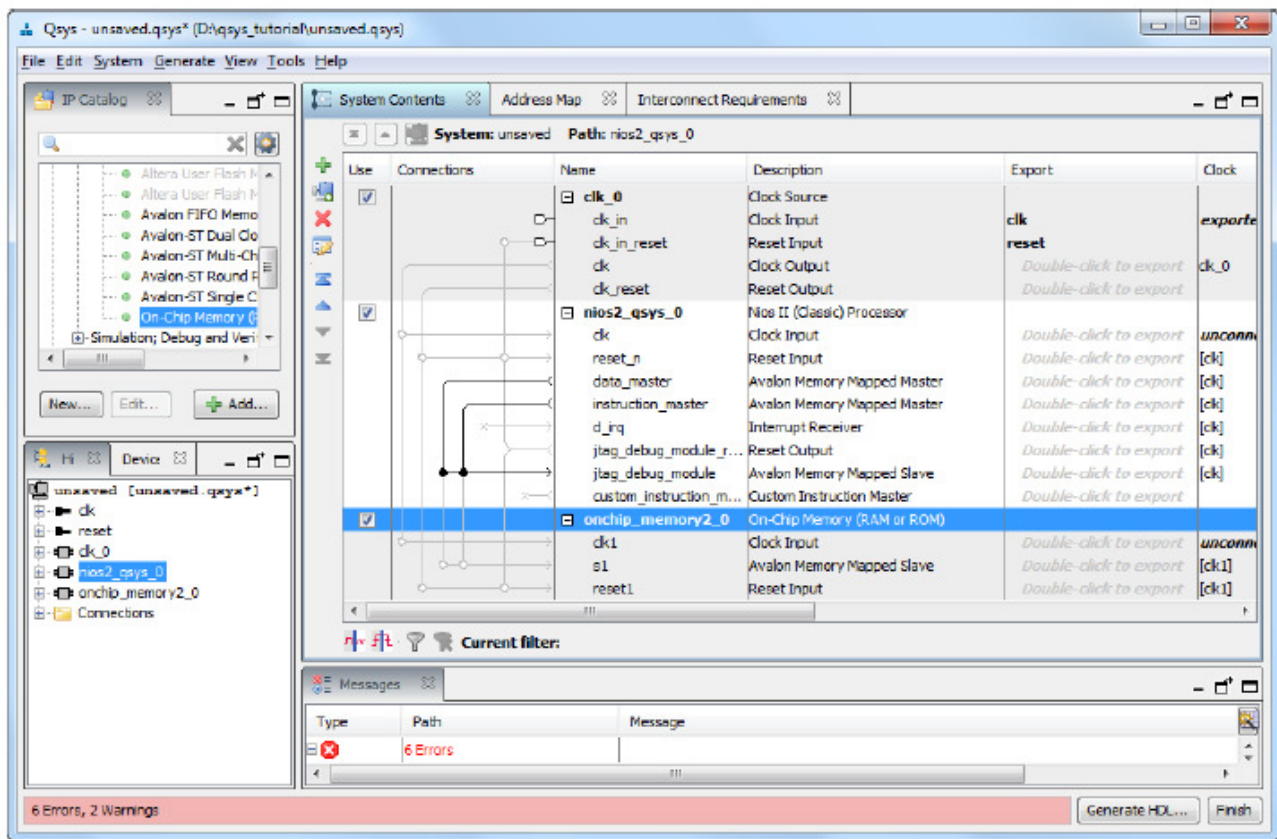

Figure 8 The on chip memory included in the design
- Click **Finish**, which returns to the System Contents tab as indicated in Figure 8
6. Observe that while the Nios II processor and the on-chip memory have been included in the design, no connections between these components have been established. To specify the desired connections, examine the **Connections** area in the window in Figure 8. The connections already made are indicated by filled circles and the other possible connections by empty circles, as indicated in Figure 9. Clicking on an empty circle makes a connection. Clicking on a filled circle removes the connection. We want the clock of the memory be the same one as the processor. Thus, connect clock inputs of the processor and the memory to the clock output of the clock component. Then, the reset to system can come either from the clock component or from the jtag\_debug\_module. So connect reset inputs of the processor and the memory to both the reset output of the clock component and the jtag\_debug\_module reset output. Finally, with a Von Neuman architecture the memory contains both data and instructions: connect the s1 input of the memory to both the data\_master and instruction\_master outputs of the processor. The resulting connections are shown in Figure 10.